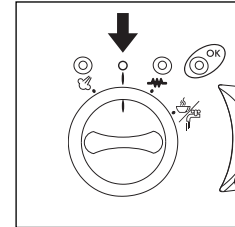

fig. 18
9. To switch the coffee machine off, turn the selector knob to the OFF position "O" (fig 18)
7. When the volume of milk has doubled, immerse the steam nozzle and continue heating the milk. Once the desired temperature has been reached (the ideal temperature is 60°C), stop the steam by turning the steam release knob in a clockwise direction and at the same time position the selector knob to the "O" off position (fig. 18).